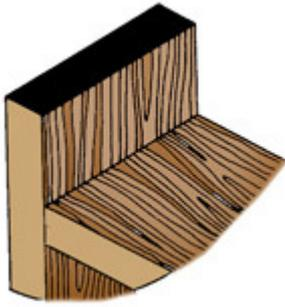

FIG. 15 - You can use nails, screws or adhesives to secure a butt joint.
- The regular butt joint is again the most commonly used (Fig. 15). Secure this type of joint with nails, screws or adhesives.